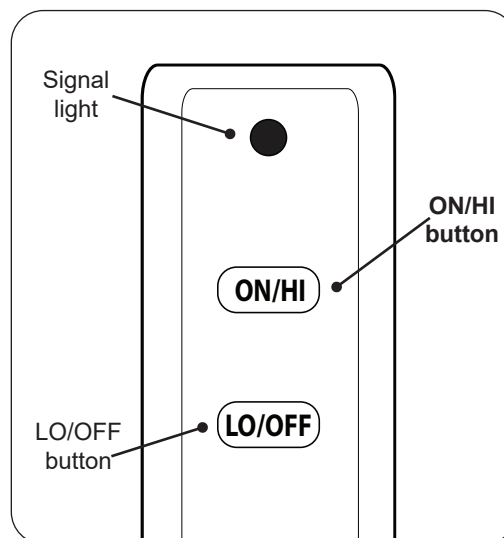

Fig. 27-1 Remote transmitter detail
2. Locate the remote transmitter and press and hold the **ON/HI** button (see Fig. 27-1). The ignition sequence will begin.